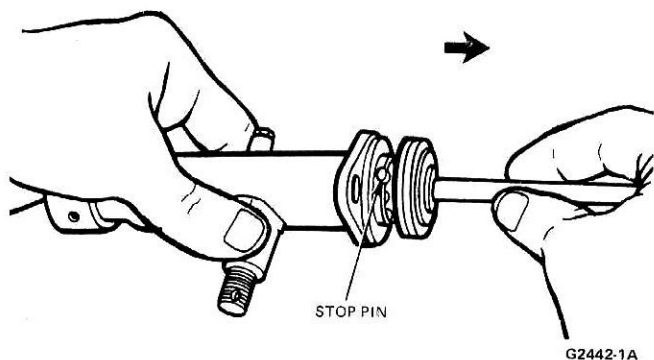

FIG. 12 Removing Stop Pin
12. Tilt the ball stud toward the clamp end of the sleeve. Pull the control valve spool bolt as far out as possible; the stop-pin will fall out or can easily be pushed out with a cotter pin (Fig. 12). (Remove grease to locate stop-pin, if necessary.)